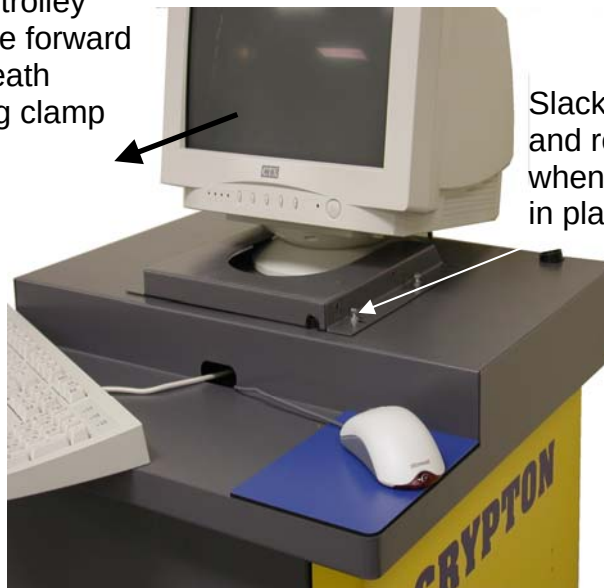
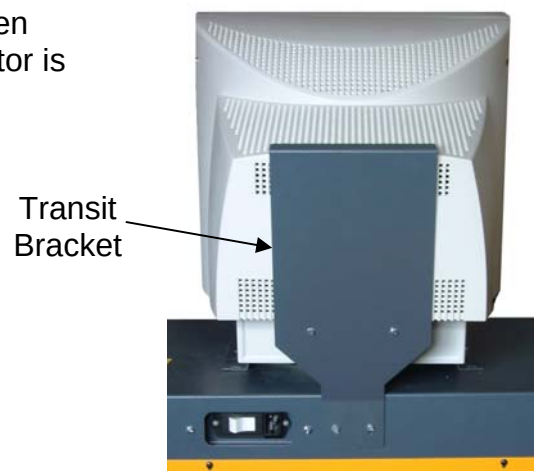

Fig. 4a
Fig. 4b
3. Slacken the four screws (do not remove) securing the Monitor clamp to the top of the trolley. Fit the Monitor base to the Monitor and place on top of the trolley at the back with the screen facing the front. Slide into position underneath the clamp and retighten the four screws as shown in Fig. 4a. The Transit Bracket must then be secured to the rear of the monitor as shown in Fig. 4b